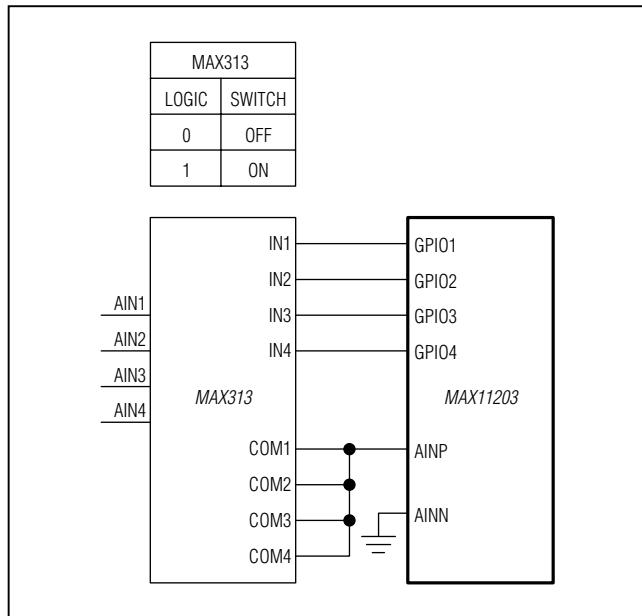

Figure 3. MAX11203 GPIOs Drive an External 4-Channel Switch (MAX313)
The devices provide four GPIO ports. When set as outputs, these digital I/Os can be used to drive the digital inputs to a multiplexer or multichannel switch. Figure 3 details an example where four single-ended signals are multiplexed in a break-before-make switching sequence, using the MAX313, a quad SPST analog switch.
**Table 4a. Data Command to Select Channel AIN1 in Figure 3**
**Table 4b. Set All Channels High Impedance in Figure 3**
Table 4c. Data Command to Select Channel AIN3 in Figure 3